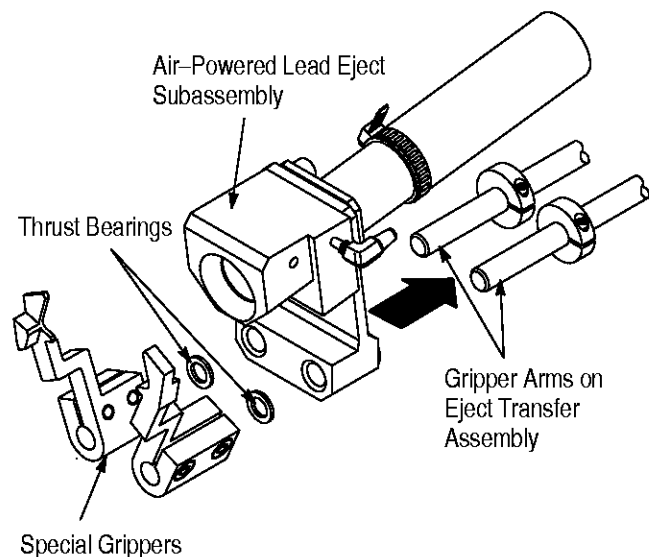

Figure 4
2. Position the air-powered lead eject subassembly, thrust bearings, and special grippers onto the gripper arms of the eject transfer assembly as shown in Figure 4. **DO NOT** tighten the screws of the special grippers at this time.
- Revised Figures 4, 5, and 9 to show Extension Tube